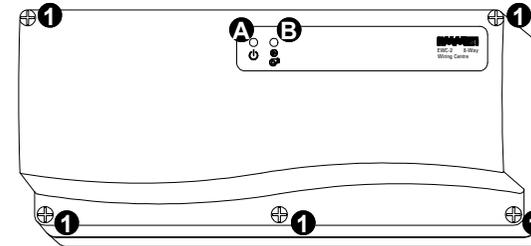

Fig. 1: External aspect
There are two LEDs on the device front panel, shown in Fig. 1:
- Remove the 5 screws labelled as 1 in Fig. 1 then remove the front plastic cover.